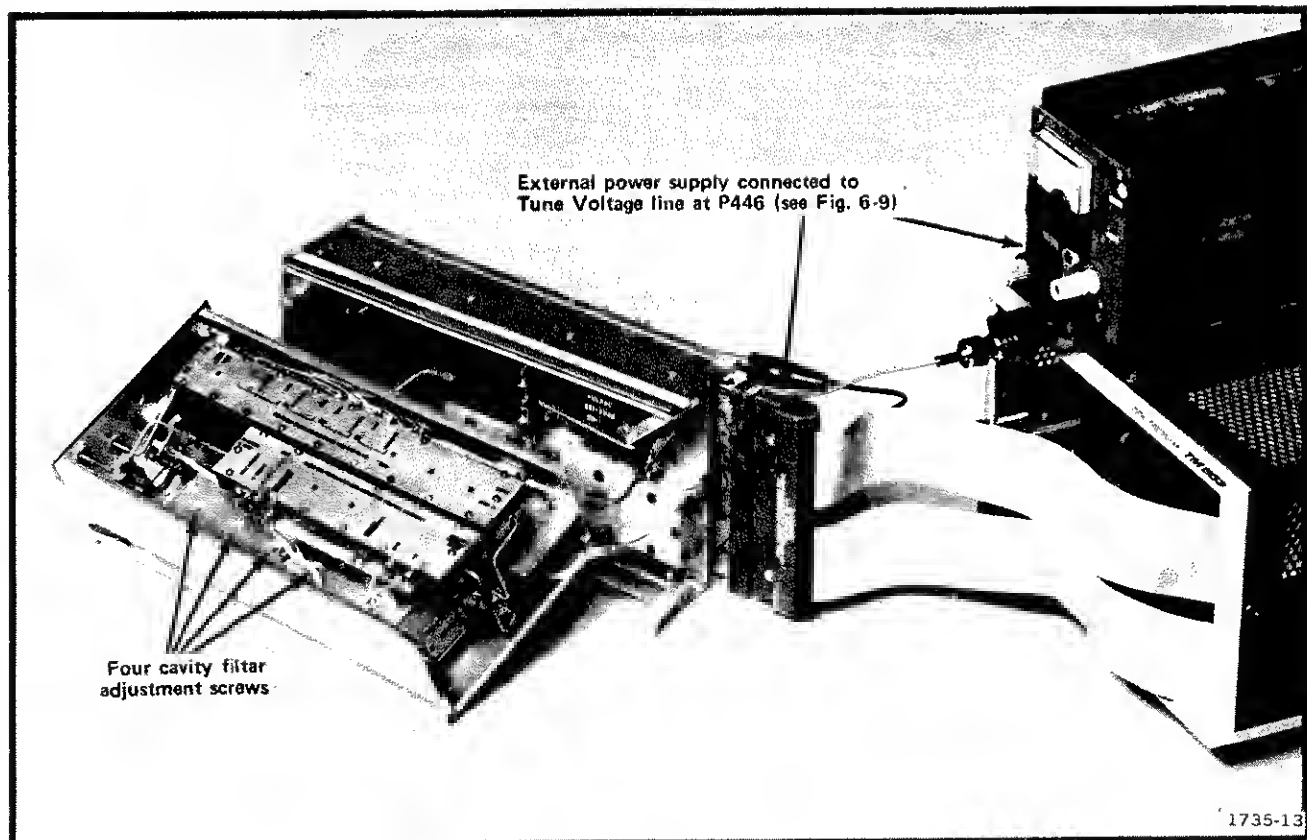
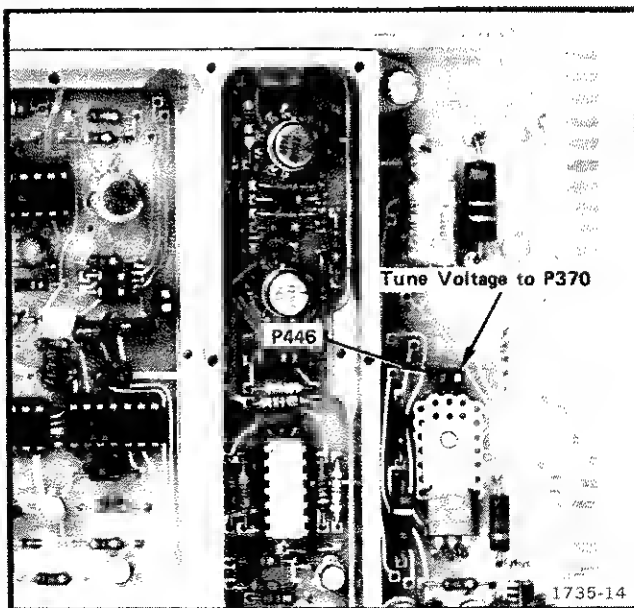

Fig. 6-8. Positioning the TR 502 to adjust the 2.2 GHz filter and mixer assemblies.
Fig. 6-9. Location of P446 on the Mother board.
a. Separate the two sections as previously described and position the two sections so the filter adjustments are accessible. Remove P446 (Tune Voltage Line, Fig. 6-8). Reconnect P370 and P210 to the Mother board and Leveling Loop and Bias board. Connect the + terminal of an external power supply to the Tune Voltage terminal of the 2.095 GHz Oscillator and Amplitude Control microwave assembly or the oscillator pin side of J446 (see Fig. 6-9). Adjust the power supply output for +7 volt then switch the TM 500 mainframe power on.